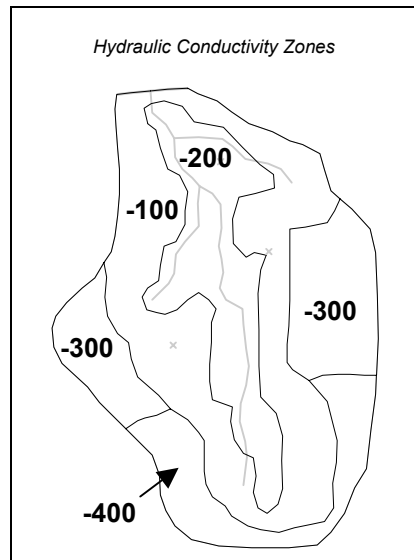

Figure 9-1 Hydraulic Conductivity Zones and Parameter Key Values.
First we will set up the hydraulic conductivity zones. The hydraulic conductivity polygons are shown in Figure 9-1. The five polygons will be used to define four parameter zones. The key values associated with each of the four zones are shown on the polygons in the figure.
5. Double click on each of the polygons shown in Figure 9-1 and assign the appropriate key value to the *Horizontal K* input field.